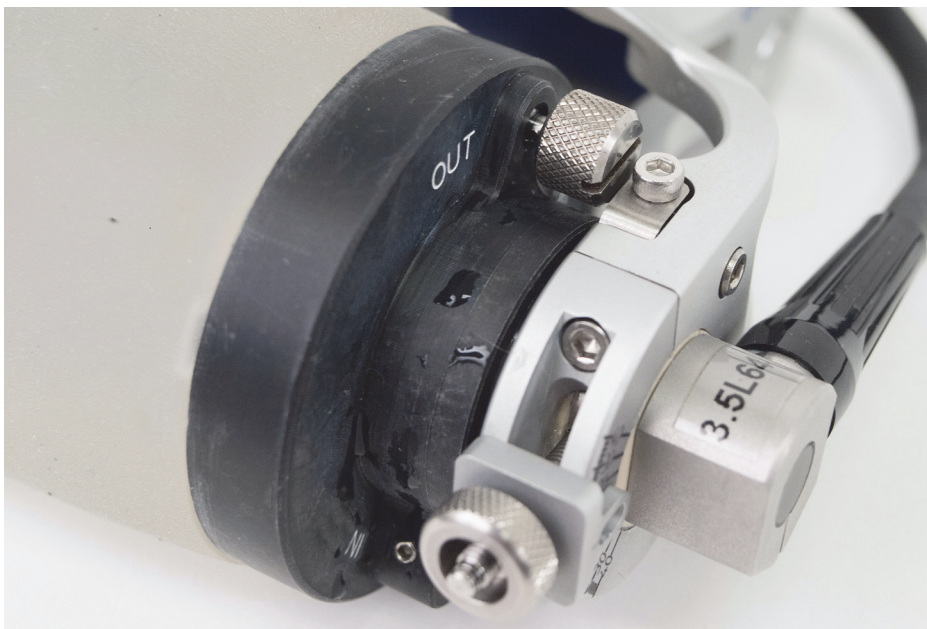

Figure 6-4 Location of the OUT valve
1. Open the OUT valve by unscrewing it one-and-a-half turns (Figure 6-4 on page 82).